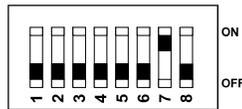

Figure 3-1 Qualstar Default DIP Switch Settings for AIT-1, AIT-2 and AIT-3
3. Set the DIP switches to meet your system requirements Figure 3-1 shows the default settings.